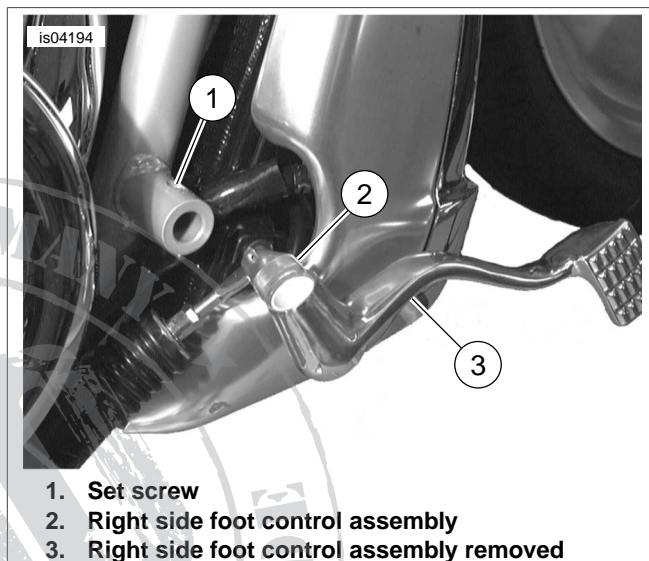

Figure 1. Remove Footpeg and Brake Pedal Assembly
1. See Figure 1. Remove the set screw (1) securing the right side foot control assembly (2) (footpeg and brake lever). Slide the assembly off (3) and away from the frame mount.